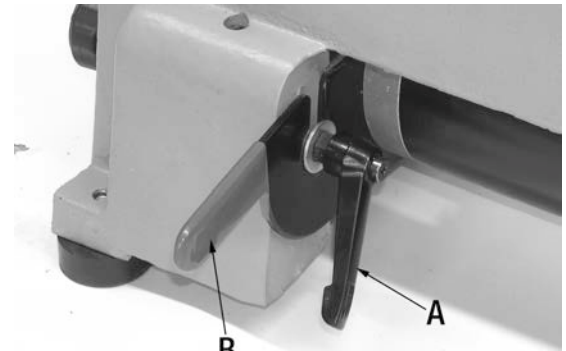

FIGURE 5
1. Loosen lock handle (A) Fig.5 and lift the motor/belt tension lever, retighten the lock handle.
3. Once the belt is installed, loosen lock handle (A) Fig.5 and lower the motor/belt tension lever (B) Fig.5 to tension the belt, retighten the lock handle.
For instructions on how to change the spindle speed range, refer to previous section named "INSTALLING BELT, BELT COVER AND SPINDLE HANDWHEEL" (Fig.5 and 6).